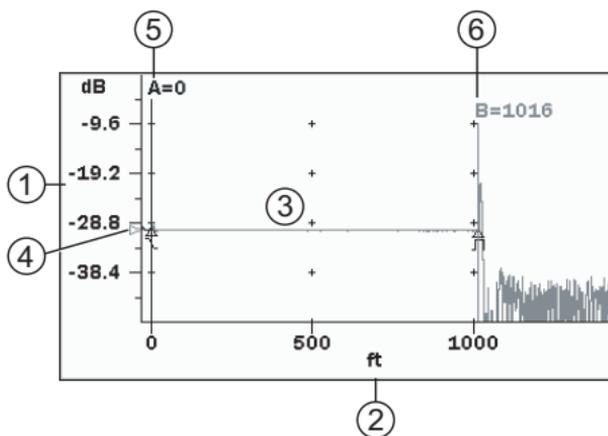

Figure 4-21: Trace Graph
The Trace Waveform (or Trace) is the downward sloping line going from left to right that connects the data points collected during a test. See item 3 in Figure 4-21 on page 4-27.
The cursors (see Figure 4-21 on page 4-27) are two vertical lines that extend from the top to the bottom of the trace graph. The cursors allow you to extract power and distance information from the trace graph. The active cursor is displayed in red and the inactive cursor is displayed in blue. The cursor distance is attached to each cursor. Distance readout value is determined by the Distance Unit selected in the Preferences setups. The distance readout reverses when a cursor movement causes it to come to close to the edge of the display.
The dB level indicator (see item 4 in Figure 4-21 on page 4-27) denotes the intersection of the active cursor and the trace level.